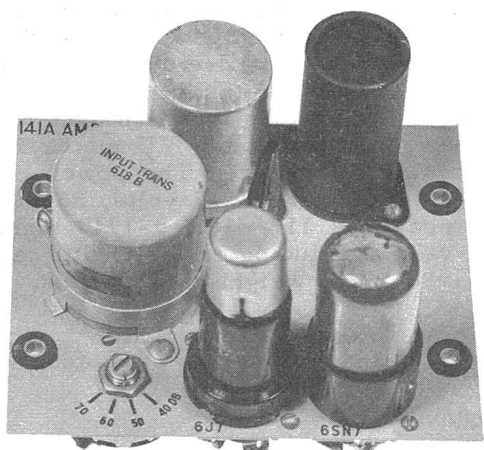

Figure 13 - Western Electric 141A Preamplifier
3.27 The Western Electric Company 141A amplifier is shown in Figure 13. This preamplifier is designed for use with the 142- and 143-type amplifiers described in 3.34 and 3.38 of this section. The maximum gain of this preamplifier is 70 db when terminated in a 600-ohm load. Three input impedances of 30, 250 or 600 ohms are available. It requires 6.3 volts ac or dc, 0.9 amperes filament and 275 volts, 15 ma dc plate power. It measures 5-3/16" long, 4-7/16" wide, 4-1/2" high, and weighs 3 pounds.